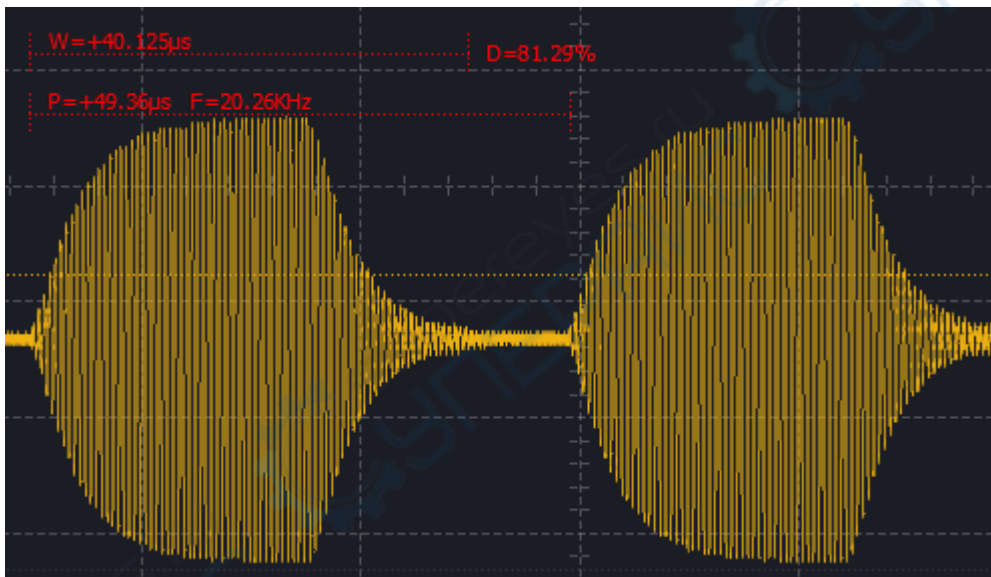

Figure 3-26
**Horizontal Measure Ruler:** in blank area of the wave window, move mouse to the start point, double click the left button of mouse, move mouse to the next point, double click again, and then move mouse to the end point, double click and finish setup the horizontal measure ruler. As Figure 3-26 shows, horizontal measure ruler can be used to measure width, frequency and duty cycle. This ruler can be cleared by double click in the wave window.